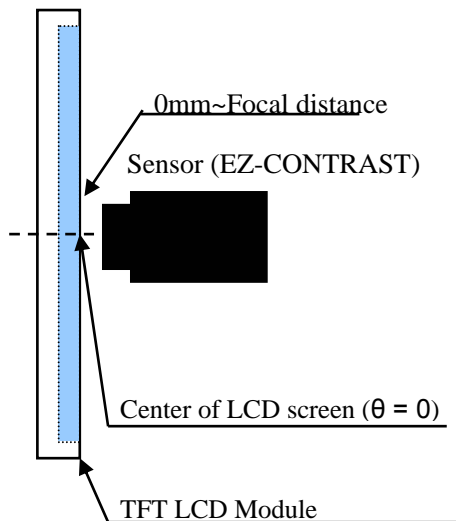

Fig.9-1 Measuring setup for Viewing angle and Response time
* The optical characteristics measurements are operated under a stable luminescence (I_{LED} = 20mA) and a dark condition. (Refer to Fig.9-1 and Fig.9-2)